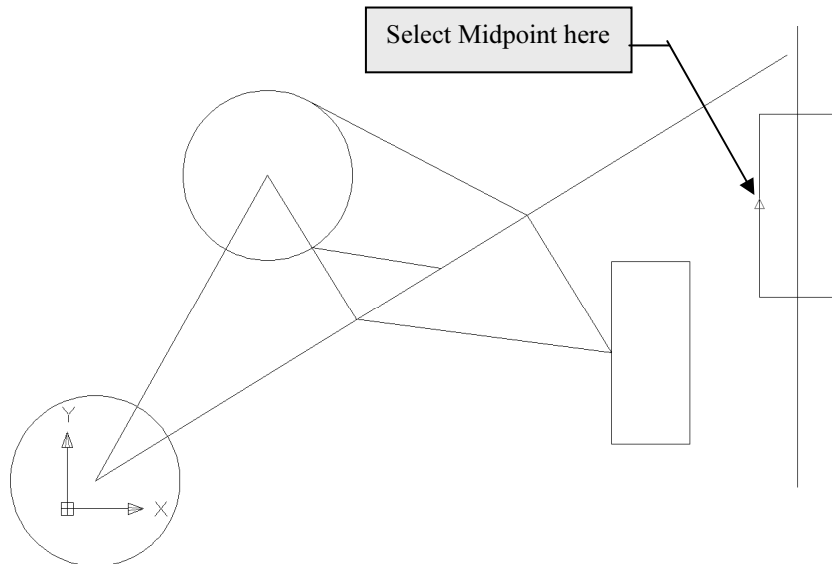

Figure 2-3.6 Rotate command. First Step - Select midpoint of vertical line on left.
17. Pick the *Midpoint* of the vertical line on the left side of the rectangle. (**Figure 2-3.6**)